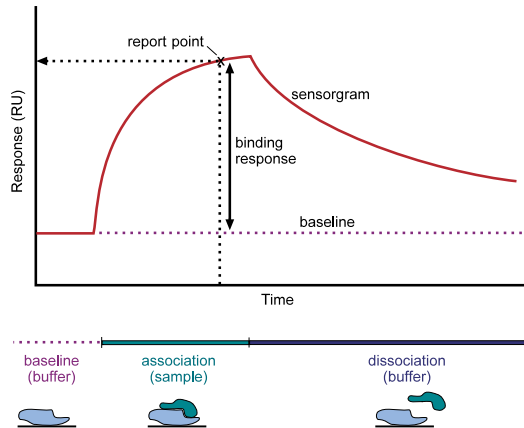

Figure 1-2. Sensorgram and interaction.
As molecules from the injected sample bind to the immobilized molecules, this results in a change in refractive index at the sensor surface that is proportional to the change in mass concentration. The change is detected in real time and data is presented in a sensorgram (SPR response plotted against time, Figure 1-2). The sensorgram displays binding curves over the entire course of an interaction and reveals association and dissociation rates of the interaction. Binding response is measured in resonance units (RU). Binding responses at specific times during the interaction are called report points.